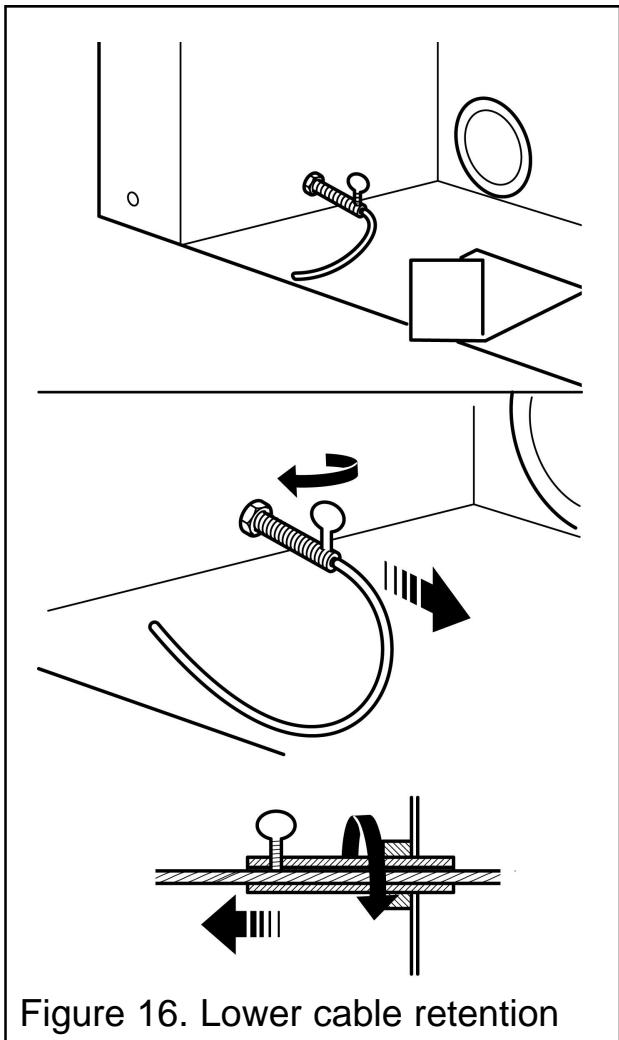

Figure 16. Lower cable retention
9. Pull each cable taut. Push the cable adjusters hard up against the back panel. Tighten the screws in the adjusters so that they clamp the cables in position. Apply tension to the cables by turning the hexagonal adjusters by hand (See figure 16).